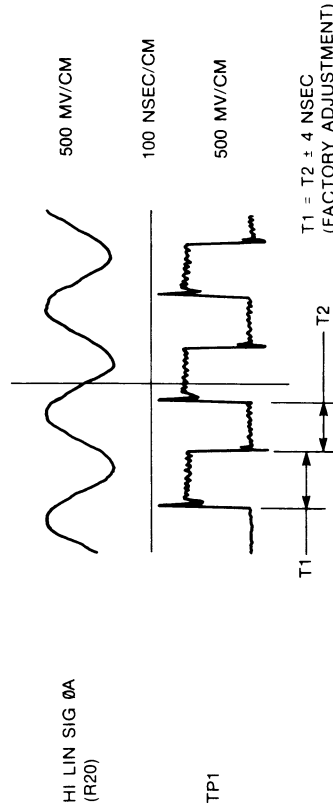

FIGURE 3-67. DIFFERENTIATOR SYMMETRY
- c. **Test Point Waveforms.** The waveforms of Test Points are shown in Figures 3-67 to 3-71 for reference only. Note that HI LIN SIG  $\emptyset$ A (D19-R20) in these figures is not an actual read-back head signal, and is the waveform of a sine-wave oscillator output with a frequency of 3.22 MHz.